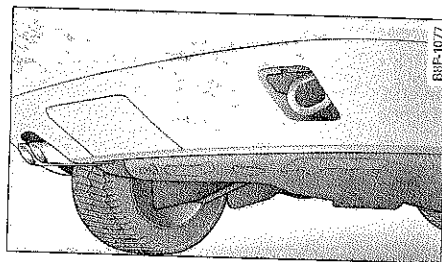

Fig. 223 Rear bumper:
- Insert the towing loop into the threaded hole ⇒ fig. 223 and turn it all the way in until it is seated securely, then tighten it with the wheel bolt wrench.
- Attach the winch hook to the rear towline eye ⇒ fig. 223 previously installed.